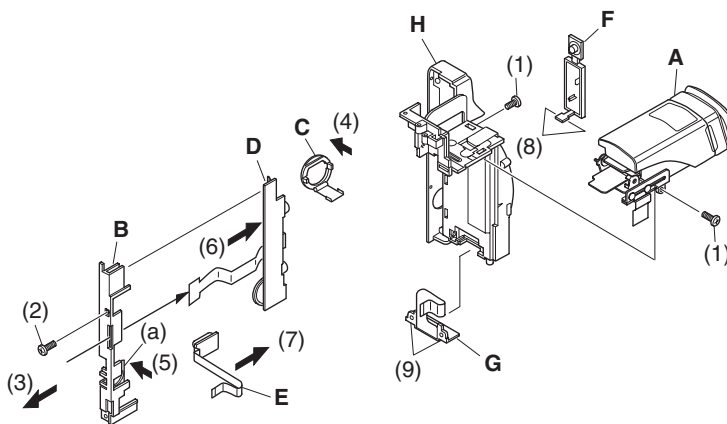

Fig. 4-8
4.8 EVF block, Jack holder, Jack cover S, AVJ circuit board, DCJ circuit board, Jack cover R, Battery terminal, and Rear cover (Fig. 4-8)